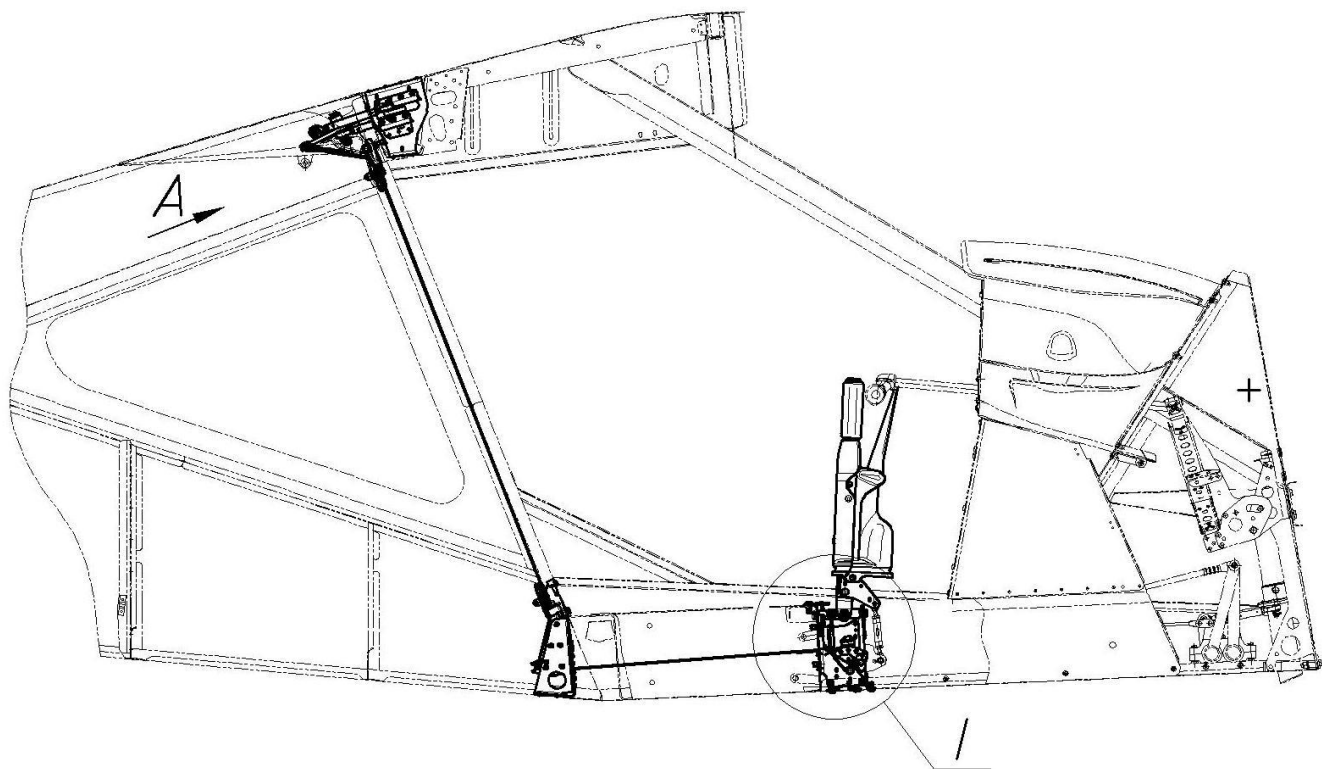

Fig. 1
3.1) Ensuring access to area “I” of the work (fig. 1).